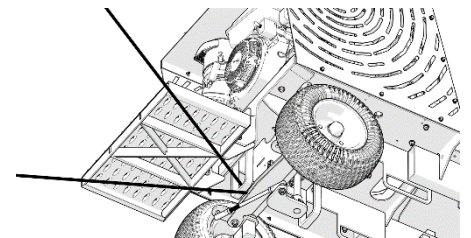

Fig 20
- Secure the machine to the vehicle or trailer tightly using fastening devices and the 6 tie down points. (Fig, 18, 19, and 20) Figure 20 shows tie down location under the rear of machine. Ensure that the machine will not roll or shift on its own.